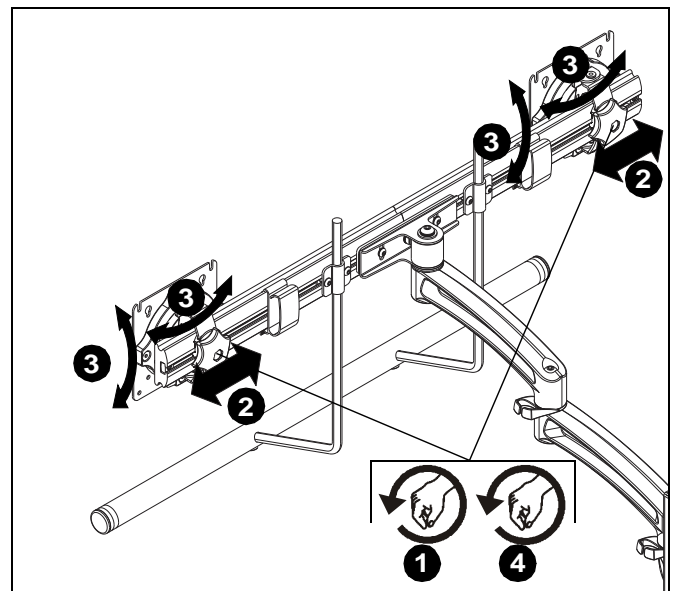

Figure 22
1. Loosen knobs securing faceplates to array. (See Figure 22)
2. Slide displays laterally on array to adjust lateral shift. (See Figure 22)
3. Adjust pitch and pivot position as desired. (See Figure 22)
4. Tighten knobs to secure faceplates in position. (See Figure 22)
1. Loosen roll adjustment screws on back of array bracket. (See Figure 22)
2. Adjust roll of array bar as desired. (See Figure 22)
3. Tighten roll adjustment screws on back of array bracket. (See Figure 22)